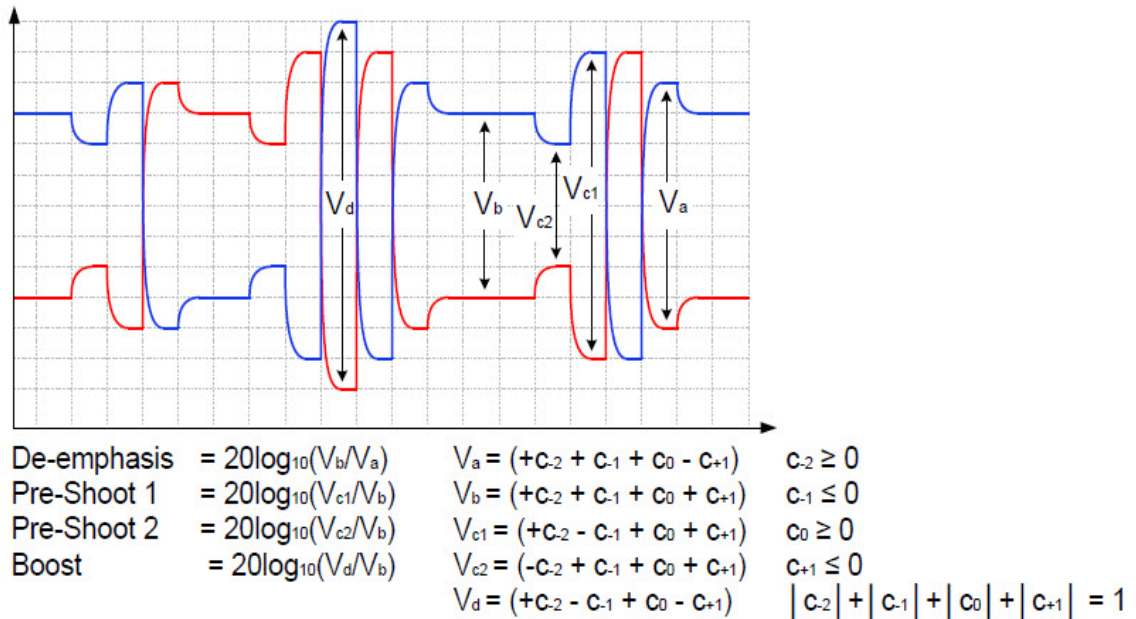

Figure 23 Waveform measurement points for preshoot and de-emphasis
64.0 GT/s PCIe signaling must support the full range of presets given in Table 8-2 (PCI Express Base Specification Revision 6.0). Presets are defined in terms of ratios, relating the pre-cursor and post-cursor equalization voltages. The pre-cursor (Vc) is referred to as pre-shoot, while the post-cursor (Vb) is referred to as de-emphasis. This convention permits the specification to retain the existing 2.5 GT/s and 5.0 GT/s definitions for Tx equalization, where only de-emphasis is defined, and it allows preshoot and de-emphasis to be defined such that each is independent of the other. The tolerances in Table 8-1 (PCI Express Base Specification Revision 6.0) also apply to 2.5 and 5.0 GT/s de-emphasis. The maximum swing, Vd, is also shown to illustrate that, when both c₊₁ and c₋₁ are nonzero, the swing of Va does not reach the maximum as defined by Vd. The high frequency nature of PCIe signaling makes measurement of single UI pulse heights impractical. Consequently all amplitude measurements are made with low frequency waveforms as shown in Figure 23.
- 13 Computes their equalization voltages by using Matlab, and then calculates equalization ratios by using the formulae stated in Figure 23 (Figure 8-6 of the spec).